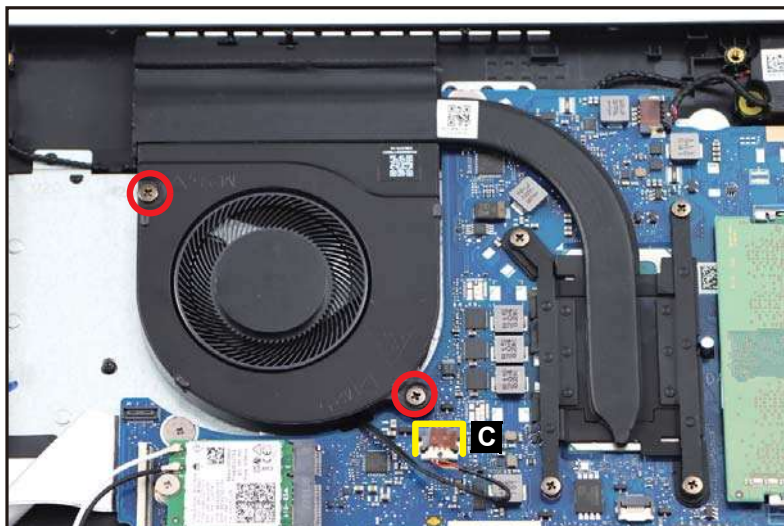

Figure 3-28. Fan Removal
2. Disconnect the fan cable from the mainboard connector (C) (Figure 3-28).
3. Remove two (2) screws securing the fan in place (Figure 3-28).